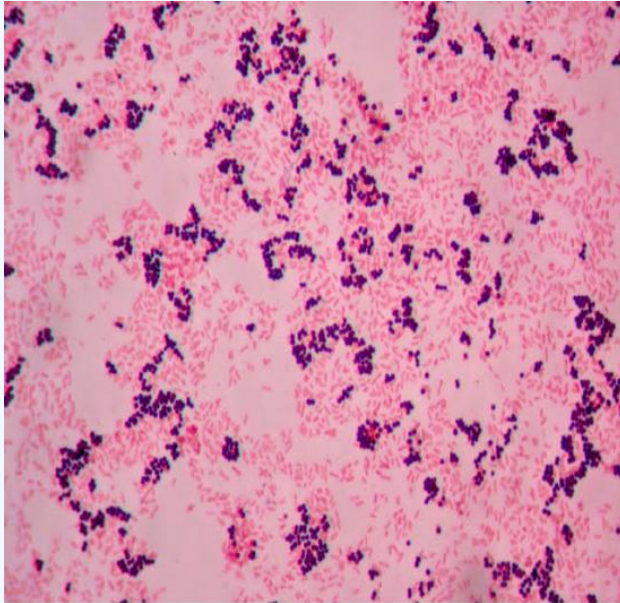

Figure 1: Results from initial Gram stain of the original Unknown Bacterial Culture showing both species mixed together in this culture.
Figure 1: (A) Results from initial Gram stain of the original Unknown Bacterial Culture showing both species mixed together in this culture. (B) Gram stain of isolated unknown bacteria "A." (C) Gram stain of isolated unknown bacteria "B."